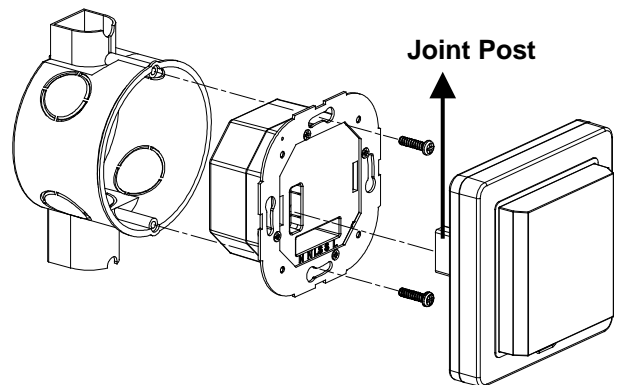

FIGURE 5
- Secure the recessed power unit to the pattress box using 2 screws supplied. Then fit the detection unit back to the recessed power unit. Note the joint post should align correctly with the opening on the left side of the recessed power unit. (FIGURE 5)